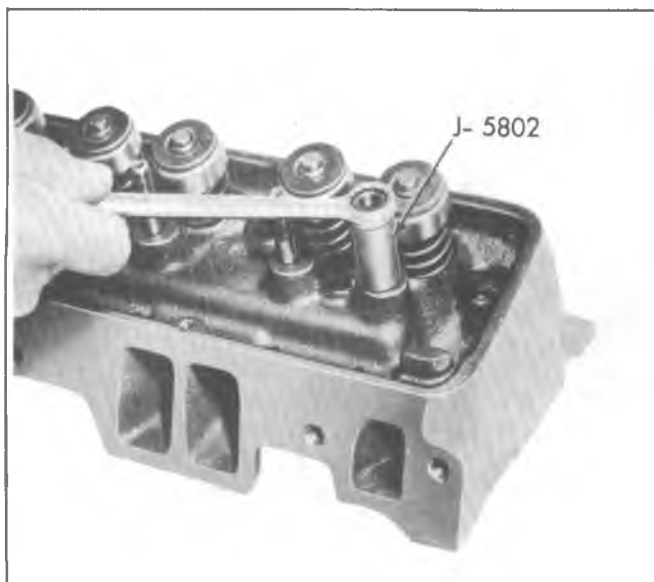

Fig. 6A4-26--Removing Rocker Arm Stud
2. Ream hole for oversize stud using Tool J-5715 for .003" oversize or Tool J-6036 for .013" oversize (fig. 6A4-27).
Install new stud, using Tool J-6880 as a guide. Gage should bottom on head (fig. 6A4-28).